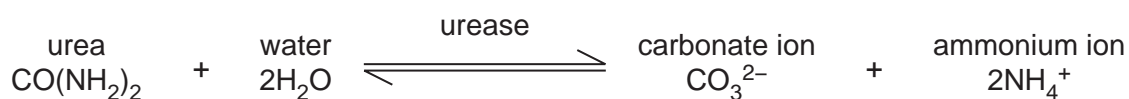

Fig. 1.1
- 1 The enzyme urease catalyses the breakdown of urea into carbonate ions and ammonium ions as shown in Fig. 1.1.